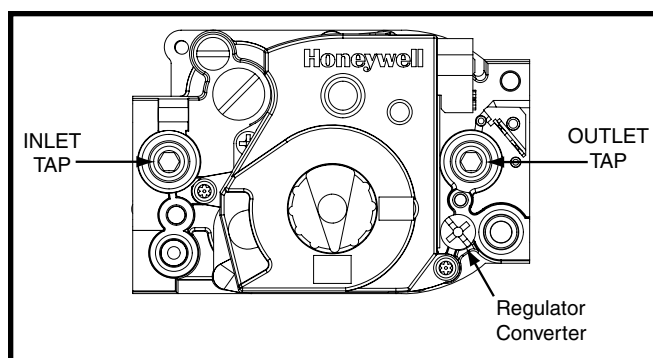

Figure 14. Direct Ignition Gas Valve
1. Remove the regulator converter from the gas valve, See Figure 14.
2. Using a 3/16" Allen wrench, remove the appropriate tap plug located on the gas valve. See Figure 14. **NOTE:** To measure the inlet gas pressure, remove the tap plug on the inlet side of the gas valve. To measure the manifold pressure, remove the tap plug on the outlet side of the gas valve.